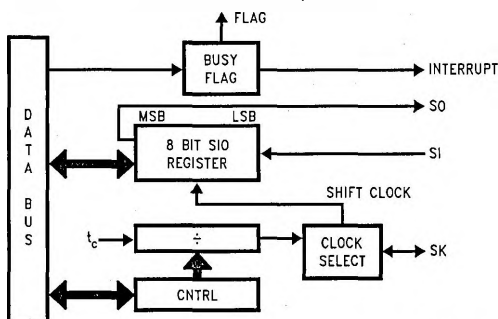

FIGURE 12. MICROWIRE/PLUS Block Diagram
MICROWIRE/PLUS is a serial synchronous communications interface. The MICROWIRE/PLUS capability enables the device to interface with any of National Semiconductor's MICROWIRE peripherals (i.e. A/D converters, display drivers, E²PROMs etc.) and with other microcontrollers which support the MICROWIRE interface. It consists of an 8-bit serial shift register (SIO) with serial data input (SI), serial data output (SO) and serial shift clock (SK). *Figure 12* shows a block diagram of the MICROWIRE logic.